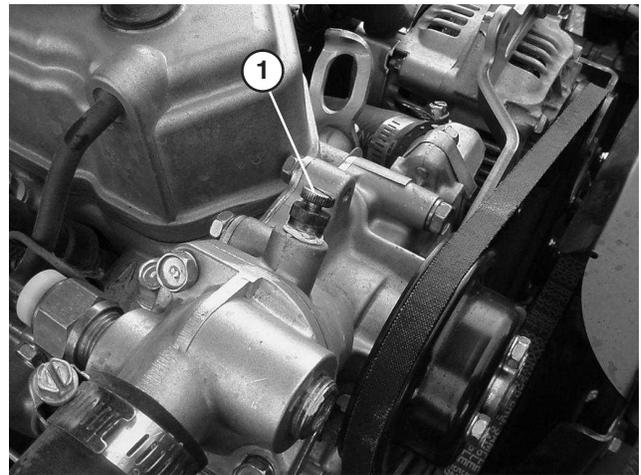

Figure 50
5. Open bleed screw on top of water pump (Fig. 50).